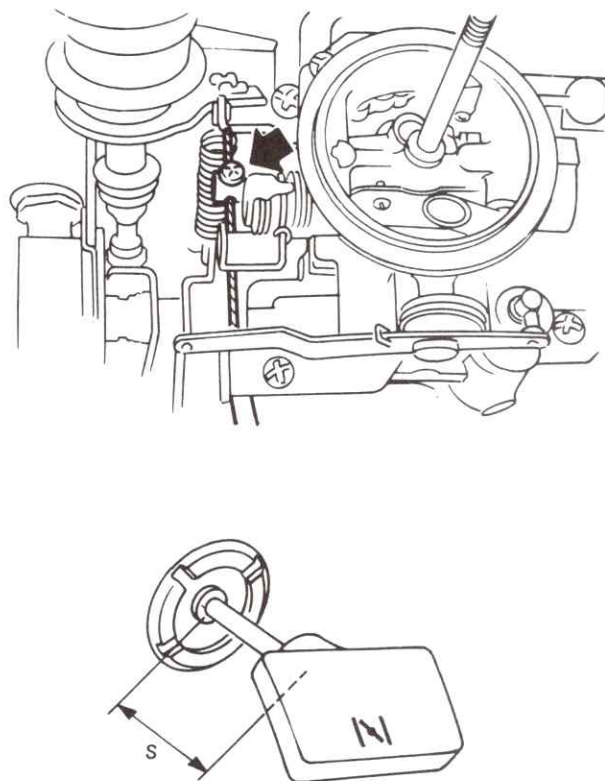

Fig. 3.20 Choke cable adjustment (Sec 17)
- 4 With the cable in position, do not tighten the pinch screw until the choke control knob has been pulled out by about 0.83 to 0.98 in (21 to 25 mm) and the choke valve plate has been checked as being in the fully open position (Fig. 3.20).